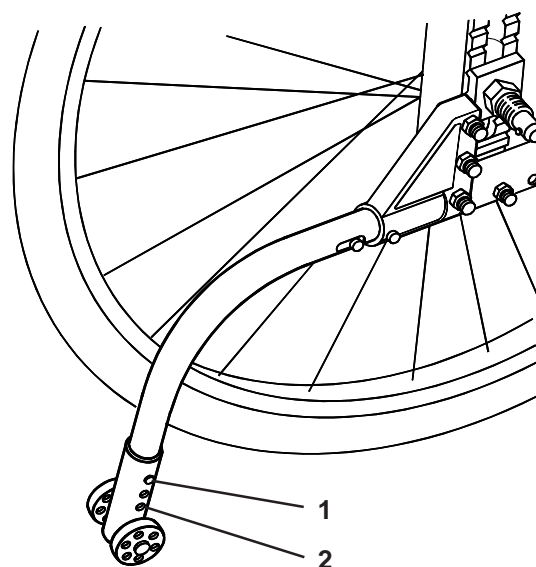

Fig. 33
To adjust the height of the anti-tip tube (Fig. 33) press in the two locking pins (1) on the anti-tip wheel assembly and move the wheel assembly to the desired position. There are three sets of holes (2) for adjustment. Ensure the locking pins are correctly locked into the required holes prior to using the wheelchair.